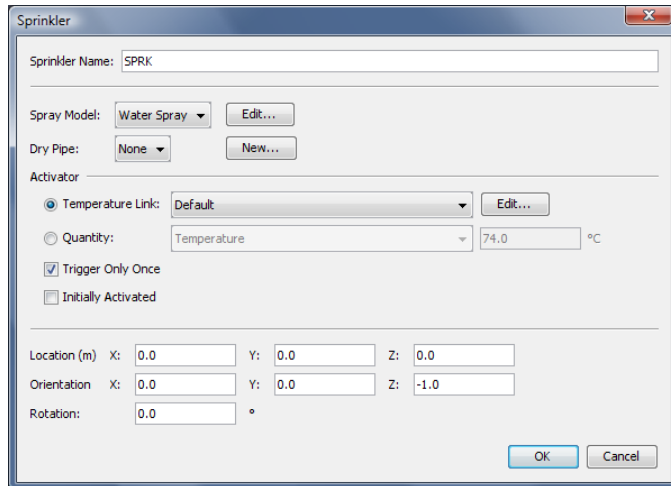

Figure 14.2. Creating a new sprinkler
1. On the **Devices** menu, click **New Sprinkler...** This will display the **Sprinkler** dialog, Figure 14.2.